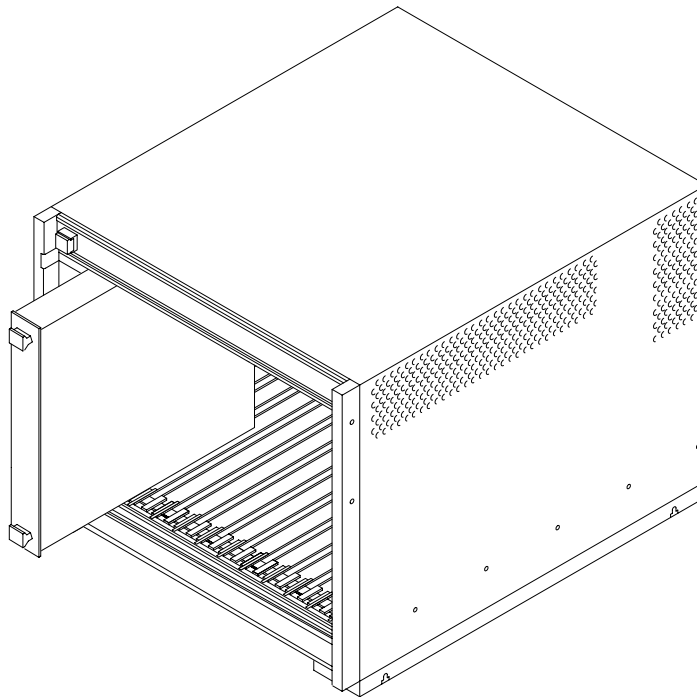

Figure 1-5: Module Installation
4. Insert the module into one of the instrument slots of the mainframe (see Figure 1-5).